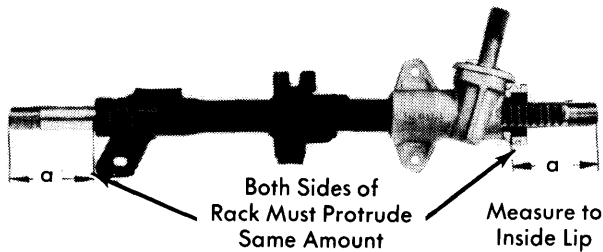

Fig. 2 Centering Rack in Steering Gear Housing
1) Center rack in housing so rack protrudes an equal amount from each end of housing (see Fig. 2). Screw tie rods onto rack (see Fig. 3) until dimension "b" is 2.64" (67 mm) for both tie rods. **NOTE** — Do not move rack from its centered position. With adjustment correct, secure tie rods with lock nuts and install rubber boots.